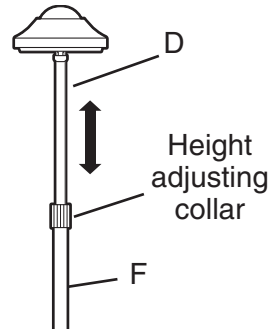

Fig.5
1. To adjust lamp height – hold upper shaft (F) with one hand, loosen height adjusting collar. Raise or lower lamp arm (D) to desired height. Tighten collar. (Fig. 5)